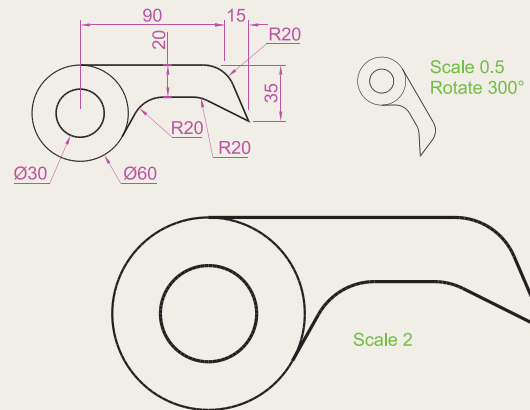

Fig. 5.54 Exercise 8
8. Construct the dimensioned drawing of Fig. 5.54. With **Copy** copy the drawing. Then with **Scale** scale the drawing to a scale of **0.5**, followed by using **Rotate** to rotate the drawing through an angle of as shown. Finally, scale the original drawing to a scale of **2:1**.